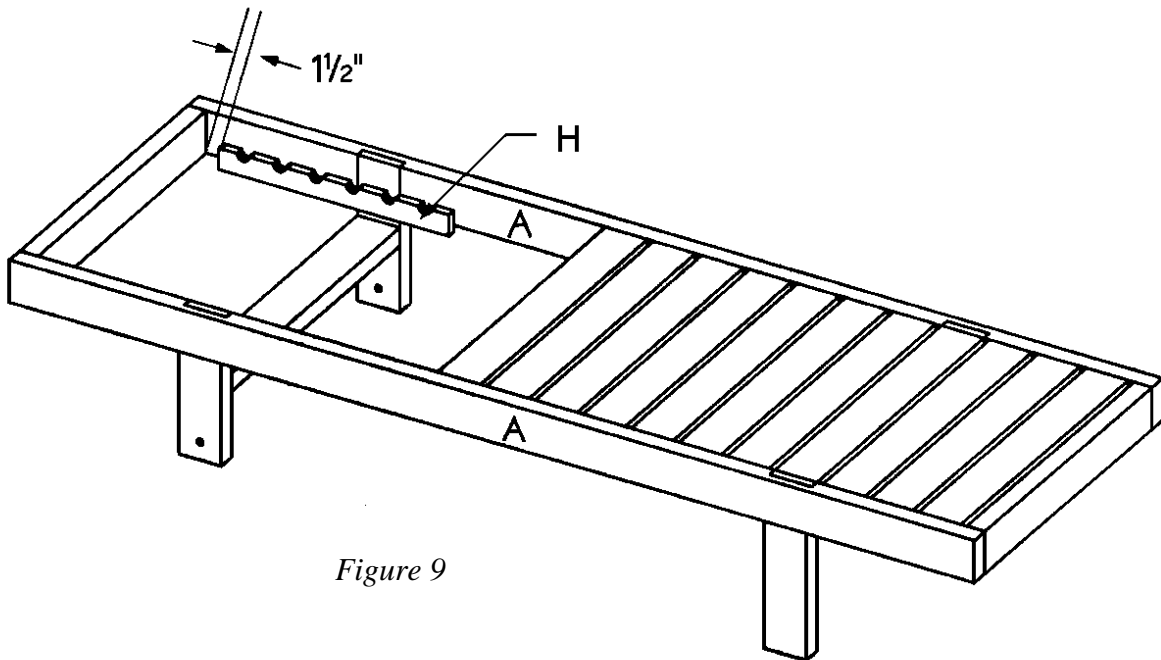

Figure 9
- Attach one half-piece (drilled half-circles up) 2-1/4" from the top of the lower edge of side (A), 1-1/2" from the front/back (B), as shown in *Figure 9*. Note that the half-piece will extend below the lower edge of side (A). Apply glue to the meeting surfaces, and use four evenly spaced 1-1/2"-long screws along the length to attach the inner rack (H) to the side (A). Repeat this procedure to attach the remaining half-piece (H) to the opposite side (A).